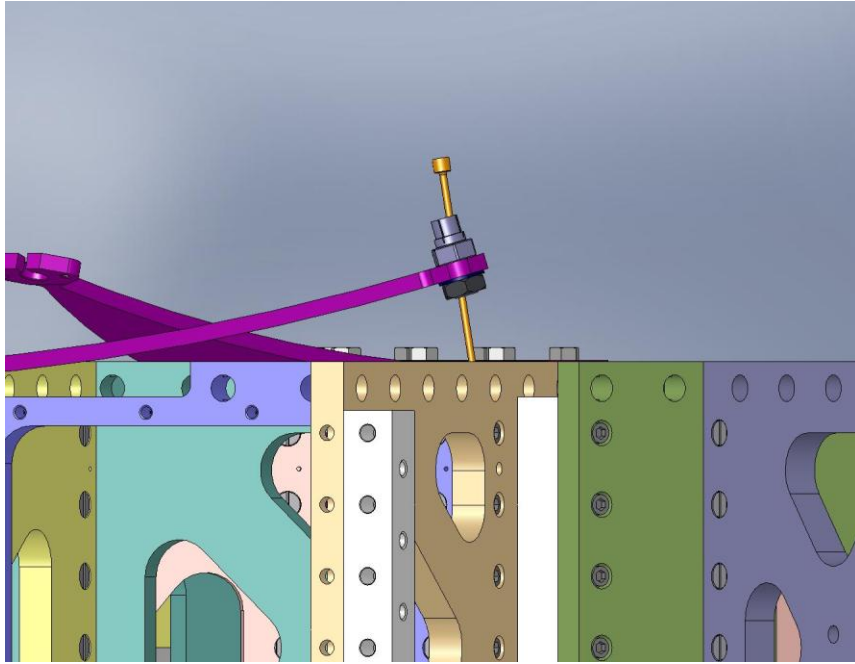

Figure 3.86. Torque the jam nut against the hex flange on the Flexure Mount.
- Thread the jam nut onto the **Flexure Mount**, as shown in **Figure 3.86**. Make sure there is good contact between the **Mount's** hex flange and the top of the **Spring**. Torque the nut to final spec.